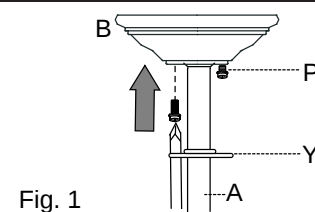

Fig. 1
1. Locate two canopy mounting screws (P) on underside of mounting bracket (C) and remove canopy mounting screw (P) closest to the open end of the hanging bracket (C). Partially loosen the other canopy mounting screw (P). Lift canopy (B) to mounting bracket (C). Place rounded part of slotted hole in canopy (B) over loosened canopy mounting screw (P) in hanging bracket (C) and push up. Twist canopy (B) to lock. Re-insert canopy mounting screw (P) that was removed, and then tighten both canopy mounting screws (P) securely. Slide canopy cover (Y) up to canopy (B), aligning rounded part of slotted holes in canopy cover (Y) with screwheads in bottom of canopy (B). Turn canopy cover (Y) to the right (clockwise) until it stops. [Fig. 1]